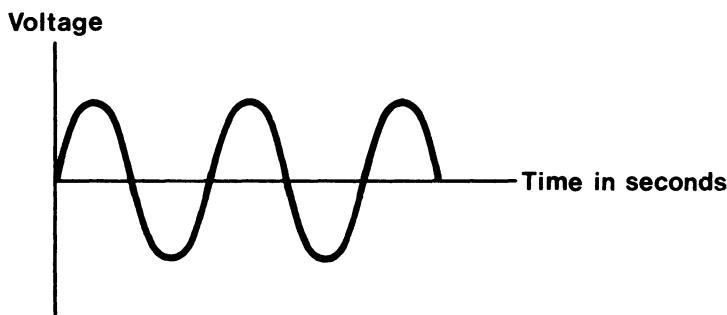

FIG. 3.39
- (a) The input to the transformer is 240 V 50 Hz and the output is 12 V. How does the number of turns on the output coil compare with the number of turns on the input coil? (3)
- (b) The output of the transformer varies with time as shown in Fig. 3.39. Is the maximum voltage greater than, equal to, or less than 12 V? Explain your answer. (4)